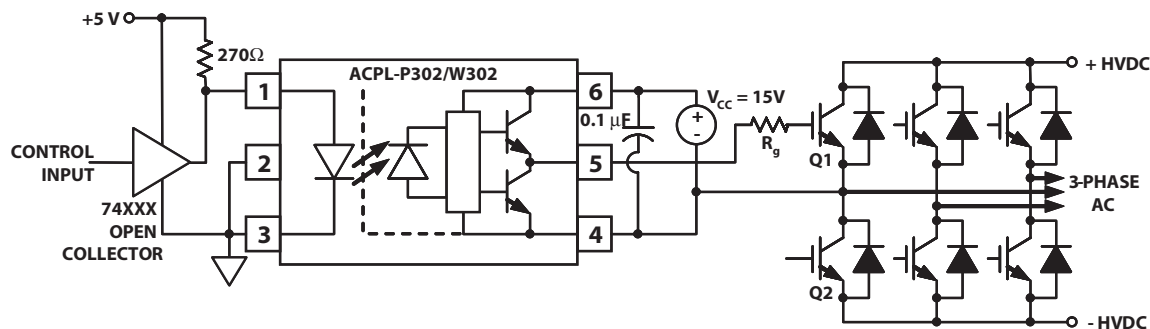
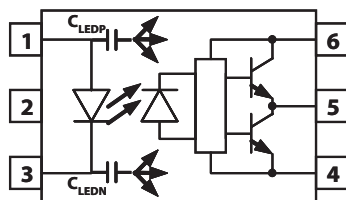
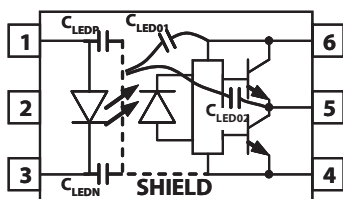
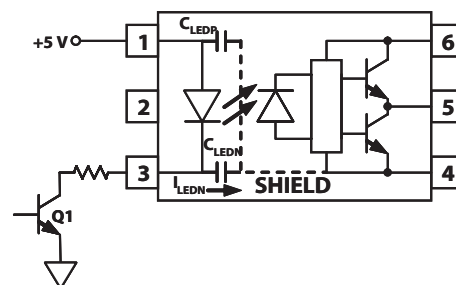

Figure 17. Recommended LED Drive and Application Circuit for ACPL-P302/W302
Figure 19. Optocoupler Input to Output Capacitance Model for Unshielded Optocouplers.
Figure 20. Optocoupler Input to Output Capacitance Model for Shielded Optocouplers.
Figure 22. Not Recommended Open Collector Drive Circuit.
To keep the IGBT firmly off, the ACPL-P302/W302 has a very low maximum V_{OL} specification of 1.0 V. Minimizing R_g and the lead inductance from the ACPL-P302/W302 to the IGBT gate and emitter (possibly by mounting the ACPL-P302/W302 on a small PC board directly above the IGBT) can eliminate the need for negative IGBT gate drive in many applications as shown in Figure 17. Care should be taken with such a PC board design to avoid routing the IGBT collector or emitter traces close to the ACPL-P302/W302 input as this can result in unwanted coupling of transient signals into the input of ACPL-P302/W302 and degrade performance. (If the IGBT drain must be routed near the ACPL-P302/W302 input, then the LED should be reverse biased when in the off state, to prevent the transient signals coupled from the IGBT drain from turning on the ACPL-P302/W302.
Step 1: Calculate R_g minimum from the I_{OL} peak specification. The IGBT and R_g in Figure 17 can be analyzed as a simple RC circuit with a voltage supplied by the ACPL-P302/W302.
where $K_{ICC} \cdot Q_g \cdot f$ is the increase in I_{CC} due to switching and K_{ICC} is a constant of 0.001 mA/(nC*kHz). For the circuit in Figure 17 with I_F (worst case) = 10 mA, $R_g = 57.5 \Omega$, Max Duty Cycle = 80%, $Q_g = 100$ nC, $f = 20$ kHz and $T_{AMAX} = 85^\circ C$:
Without a detector shield, the dominant cause of optocoupler CMR failure is capacitive coupling from the input side of the optocoupler, through the package, to the detector IC as shown in Figure 19. The ACPL-P302/W302 improves CMR performance by using a detector IC with an optically transparent Faraday shield, which diverts the capacitively coupled current away from the sensitive IC circuitry. However, this shield does not eliminate the capacitive coupling between the LED and optocoupler pins 5-8 as shown in Figure 20. This capacitive coupling causes perturbations in the LED current during common mode transients and becomes the major source of CMR failures for a shielded optocoupler. The main design objective of a high CMR LED drive circuit becomes keeping the LED in the proper state (on or off) during common mode transients. For example, the recommended application circuit (Figure 17), can achieve 10 kV/ μ s CMR while minimizing component complexity.
The open collector drive circuit, shown in Figure 22, can not keep the LED off during a $+dV_{CM}/dt$ transient, since all the current flowing through C_{LEDN} must be supplied by the LED, and it is not recommended for applications requiring ultra high CMR_L performance. The alternative drive circuit which like the recommended application circuit (Figure 17), does achieve ultra high CMR performance by shunting the LED in the off state.